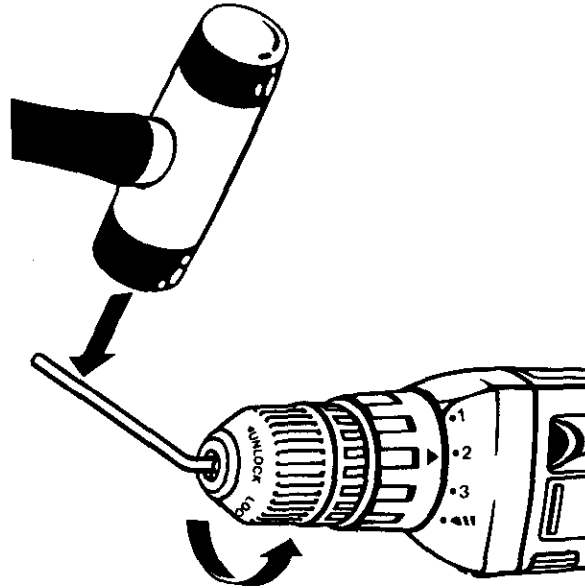

Fig. 14
- Insert hex key wrench in chuck and tighten chuck jaws securely. Tap sharply with a mallet in a counterclockwise direction. This will loosen chuck on the spindle. It can now be unscrewed by hand. *See Figure 14.*